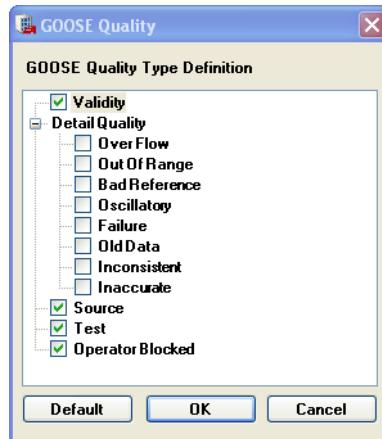

Figure F.8 GOOSE Quality Attributes
The device uses GOOSE quality attributes to indicate the quality of the data in its transmitted GOOSE messages. Under normal conditions, all attributes are zero, indicating good quality data. *Figure F.8* shows the GOOSE quality attributes available to devices that subscribe to GOOSE messages from device data sets that contain them. Internal status indicators provide the information necessary for the device to set these attributes. For example, if the device becomes disabled, as shown via status indications (e.g., an internal self-test failure), the device will set the Validity attribute to INVALID and the Failure attribute to TRUE. Note that the device does not set any of the other quality attributes. These attributes will always indicate FALSE (0). See the Architect online help for additional information on GOOSE quality attributes.